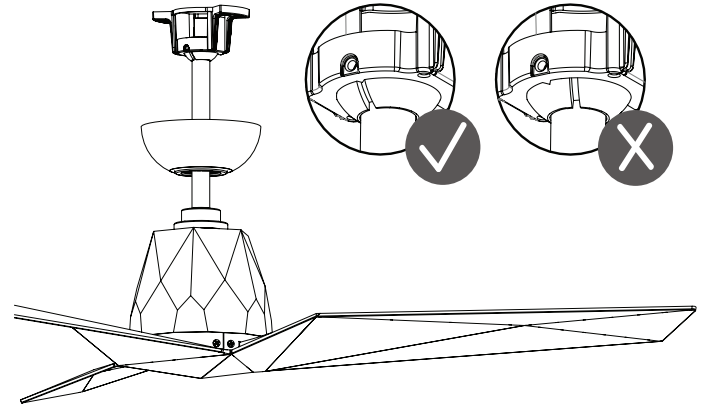

FIGURE 12
1. Carefully lift the fan motor assembly up to the mounting bracket and seat the hanger ball in the mounting bracket socket. Make sure the tab on the mounting bracket socket is properly seated in the groove in the hanger ball. Rotate the socket assembly until the ball drops and locks into the hanger bracket screw (Fig. 12).
Insert the receiver into the mounting bracket with the flat side of the receiver facing the ceiling. (Fig 12)